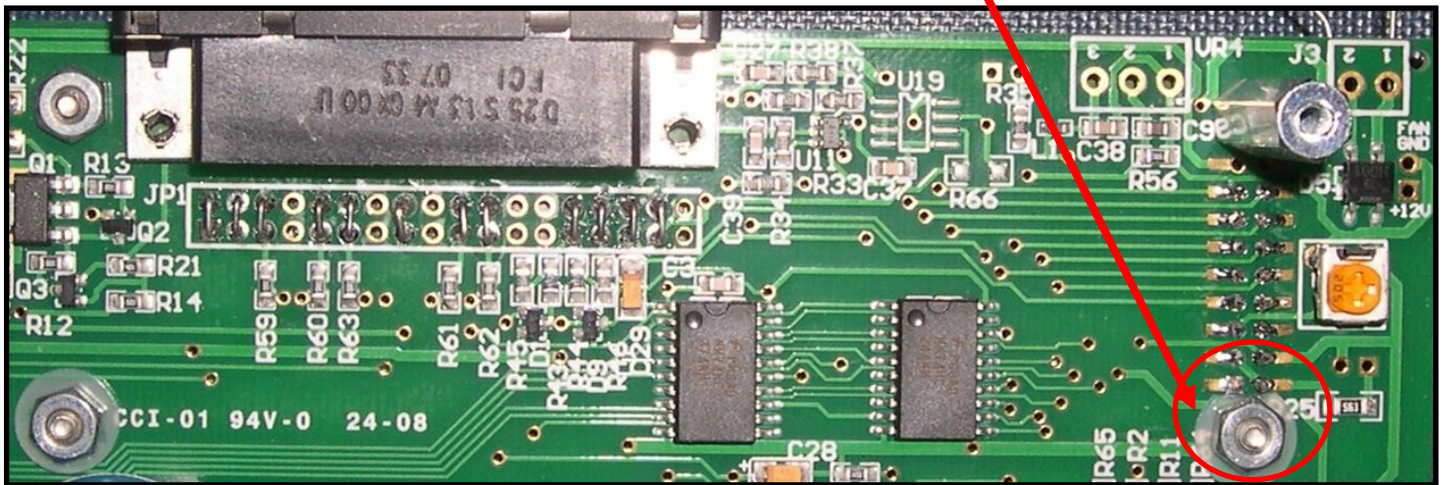

Figure 7c. Bottom side of board after LCD has been screwed into place.
- In Figure 7c. the LCD has already been soldered to the ELS PCB.